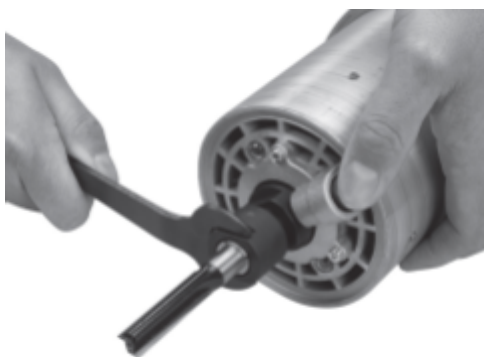

Figure 3
- While holding the base unit, rotate the motor unit counter-clockwise until the lower guide pin (1) disengages from the groove (14) in the base unit.
3. **Position Motor Unit:** Place the motor unit on its side on a stable work surface, with the collet (11) facing away from you.
4. **Engage Spindle Lock:** Press and hold the spindle lock button (10). Using the spanner (29), rotate the collet slightly until the spindle lock engages.
5. **Loosen Collet:** Continue holding the spindle lock button and loosen the collet by turning it counter-clockwise until it can be removed (**Figure 3**).